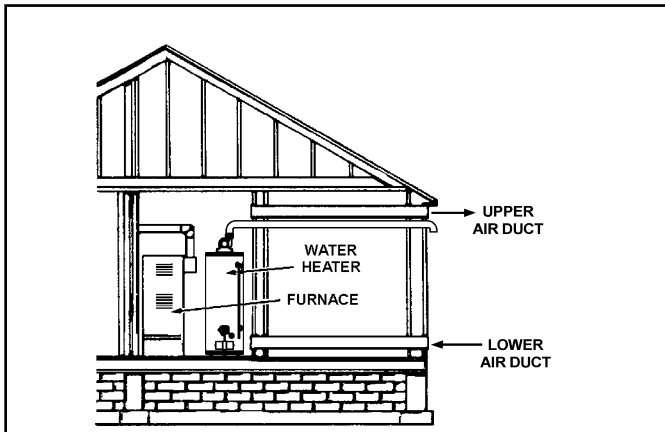

Figure 20
3. When communicating with the outdoors through horizontal ducts, each opening shall have a minimum free area of 1 square inch per 2,000 Btu/hr (11 cm²/kW) of total input rating of all equipment in the enclosure (see Figure 20).
4. When ducts are used, they shall be of the same cross-sectional area as the free area of the openings to which they connect. The minimum short side dimension of rectangular air ducts shall not be less than 3" (76mm) (see Figure 20).